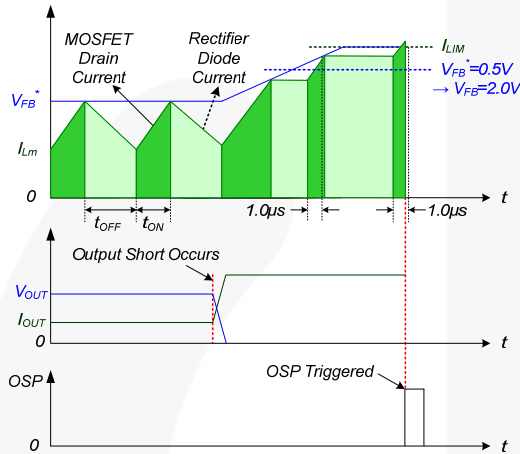

Figure 23. Output-Short Protection
4.3. Output-Short Protection (OSP): If the output is shorted, steep current with extremely high di/dt can flow through the SenseFET during the minimum turn-on time. Such a steep current creates high-voltage stress on the drain of the SenseFET when turned off. To protect the device from this abnormal condition, OSP is included. It is comprised of detecting V_{FB} and SenseFET turn-on time. When the V_{FB} is higher than 2.0V and the SenseFET turn-on time is lower than 1.0 μ s, the FSL117MRIN recognizes this condition as an abnormal error and shuts down PWM switching until V_{CC} reaches V_{START} again. An abnormal condition output short is shown in Figure 23.